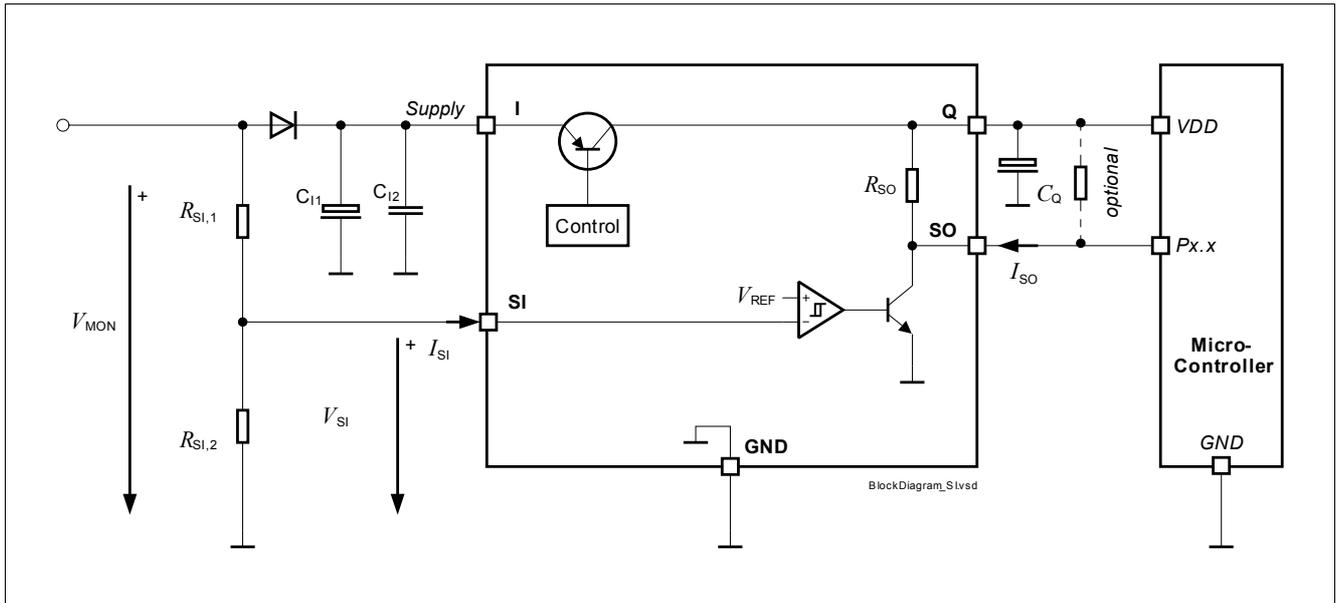

Figure 9 Diagram
- $R_{SI,1}$ ,  $R_{SI,2}$ : Resistors of the external voltage divider, see Figure 9.
$V_I = 13.5\text{ V}$ ,  $T_j = -40\text{ °C}$  to  $+150\text{ °C}$ , all voltages with respect to ground, direction of currents as shown in Figure 9 (unless otherwise specified)